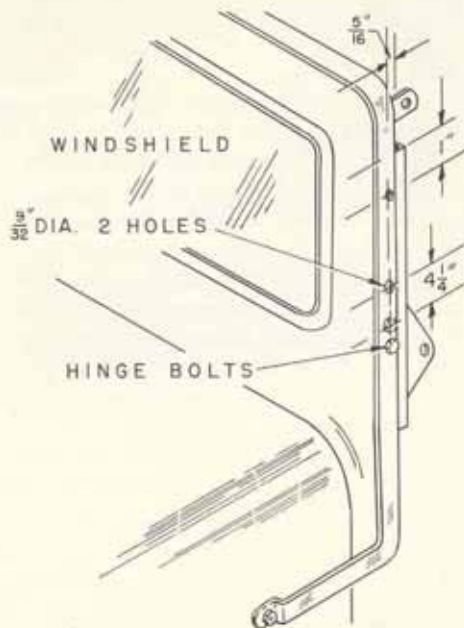

Figure 9
- Using the dimensions shown in Figure 9, drill two $9/32$ diameter holes in the frame of the windshield for the exhaust tube mount-